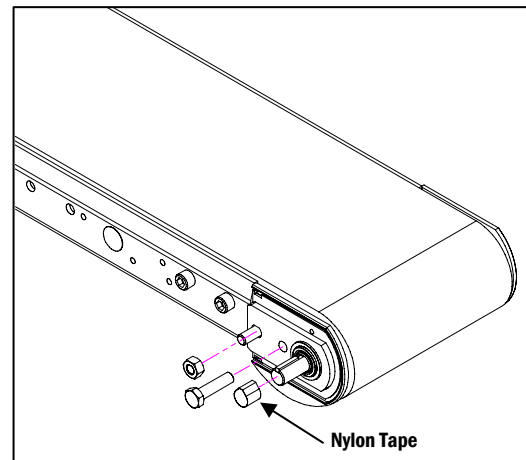

Figure 1
① Prepare the conveyor
- a. Remove the 5/16-18 Hex Nut and the 1/2" Hex Head Cap Screw using a 1/2" Wrench (**Figure 1**).